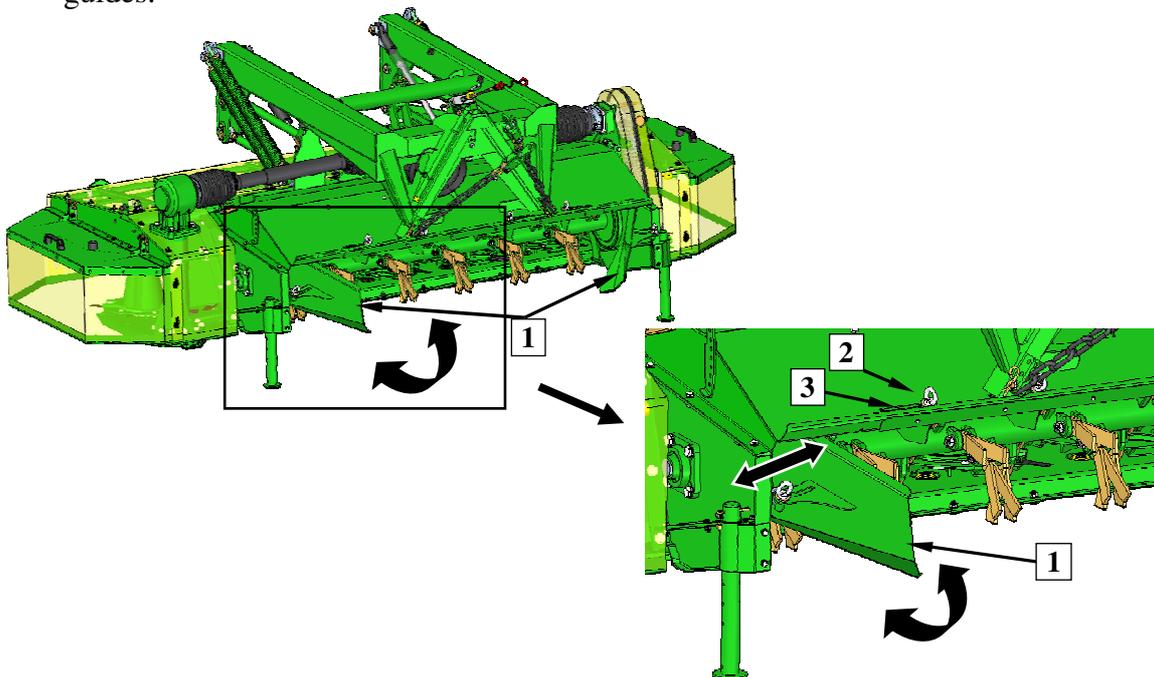

Fig. 21. Adjustment of swath guides: 1- swath guide, 2 - adjustment screw, 3 - swath wheel
In order to set swath width, adjustment of swath guides (1) should be performed (**Fig. 21**) (for: KDF S (SL)):
- ❑ loosen eye screw (2) of the swath guide,
- ❑ set the swath guide (1) as needed,
- ❑ tighten screw (2),
- ❑ even spreading of swath might be adjusted with wheels (3) the same as it is performed with guides.